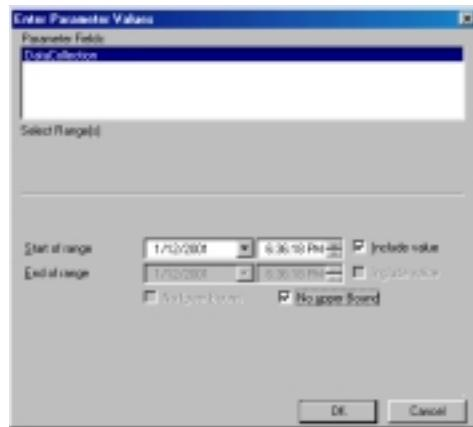

Figure 6.17 Date Range Window
2. A window specifying a date range will appear (Figure 6.17). Enter the beginning and ending transaction dates for the desired report. You can select the “No upper Bound” option to view a report containing all transactions since the “Start of range” field value or select the “No lower Bound” option to view a report containing all transactions leading up to the “End of range” value.